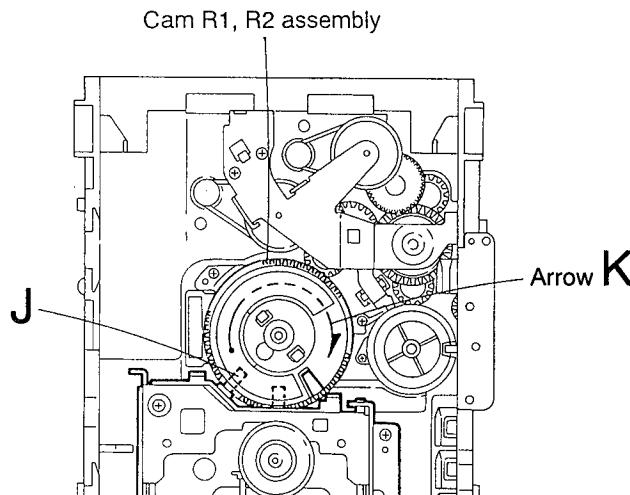

Fig.5-45
## ■ Removing the CD mechanism (See Figs. 5-45 and 5-46)
1. For dismounting only the CD mechanism without removing the CD mechanism assembly, align the shaft "J" of the CD mechanism assembly to the position shown in Fig. 5-45 while turning the cam R1 and R2 assembly in the arrow direction "K".